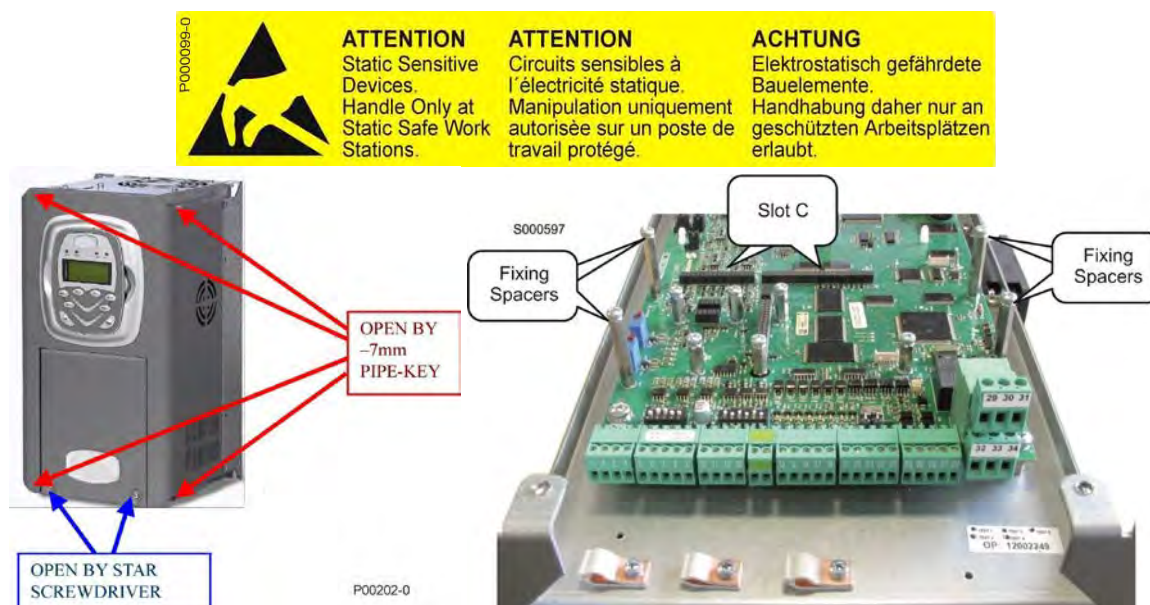

Figure 192: Removing the inverter cover; location of slot C
2. Remove the whole inverter covering by loosening the four hexagonal screws located on the top side and bottom side of the inverter to reach the fixing spacers and the signal connector (Figure 192 – Slot C.)